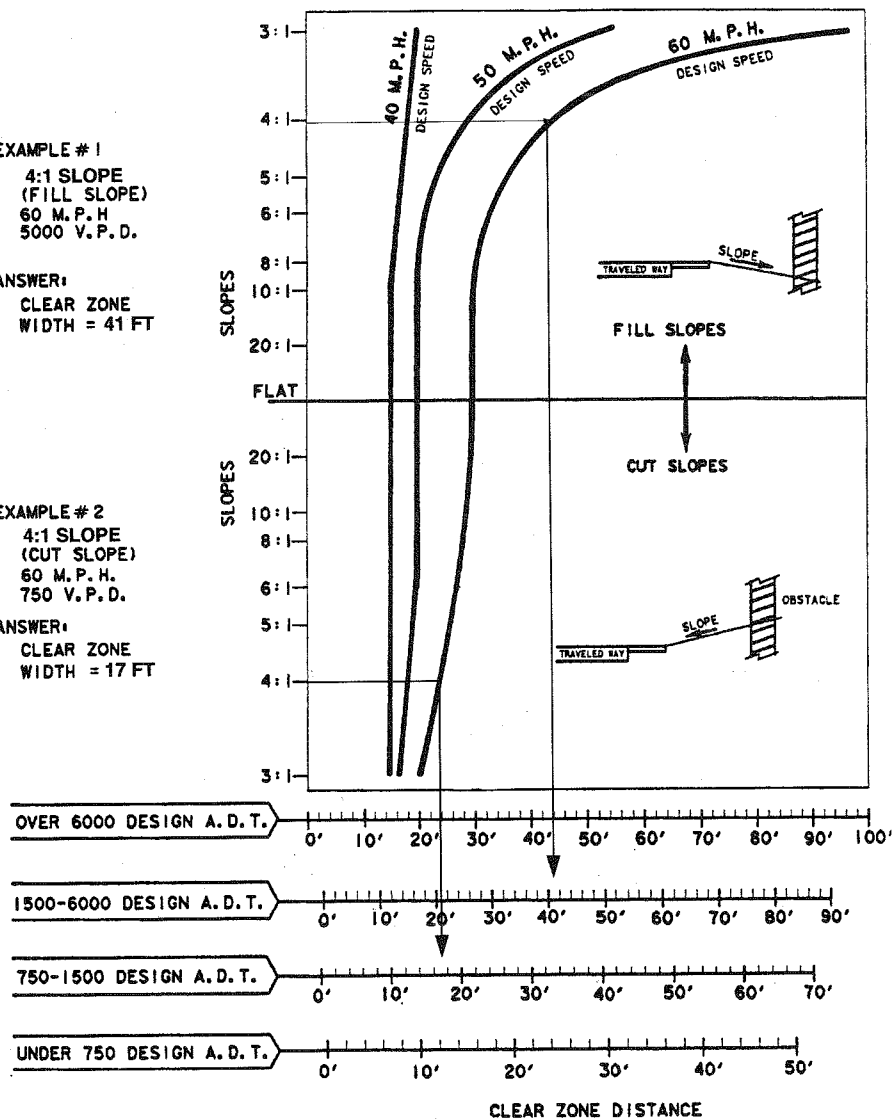

Figure 1: Nomograph for determining clear zone distance.
has a steep down slope, a motorist may require a clear zone that is wider than 30 feet. In the case of a low volume or low speed roadway, a 30 foot clear zone distance was too large. Figure 1 shows a nomograph developed by AASHTO for determining the required clear zone width. (1) The calculation of the clear zone width is dependent on the rate of the foreslope, roadway design speed,